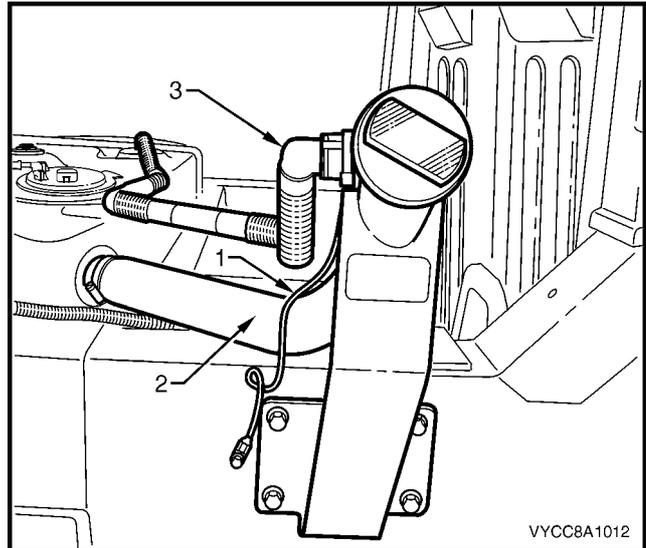

Figure 8A1 - 177
- 17 Remove the nuts from both fuel tank mounting strap studs (13), refer to Figure 8A1 - 176.
- 18 Lift the fuel tank mounting straps away from the front anchoring points (9) and place in a safe location away from the immediate worksite.